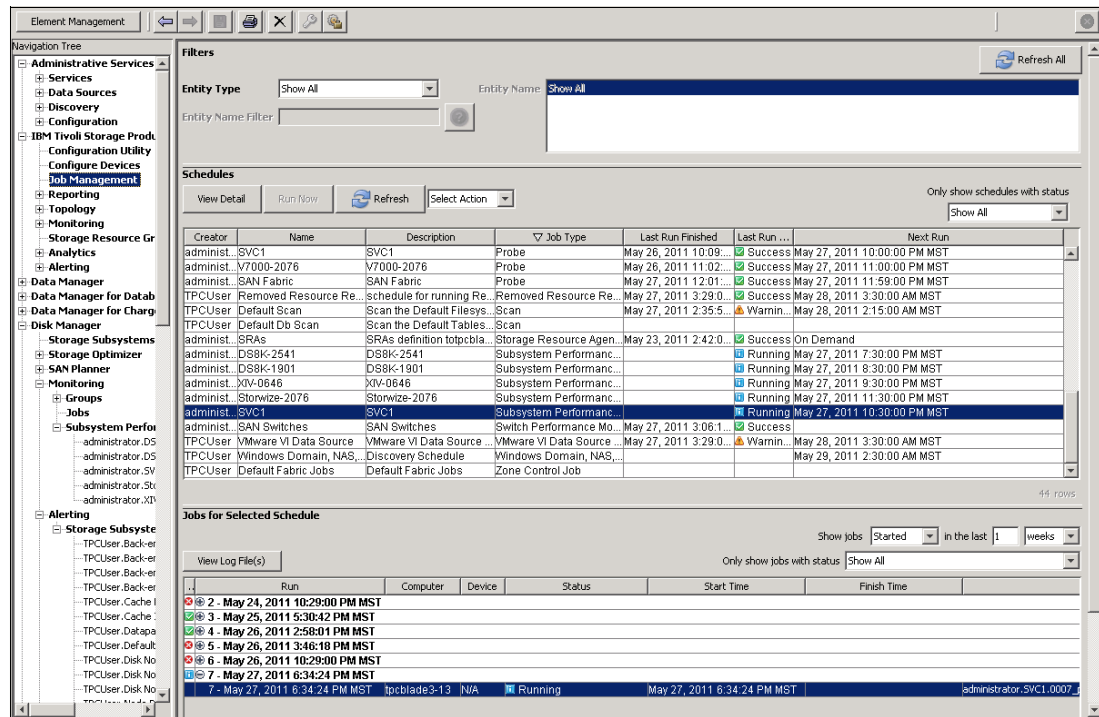

Figure 13-127 Job management panel and SAN Volume Controller performance job log selection
1. Click **Tivoli Storage Productivity Center** **Job Management**, as shown in the left pane of Figure 13-127 on page 460.